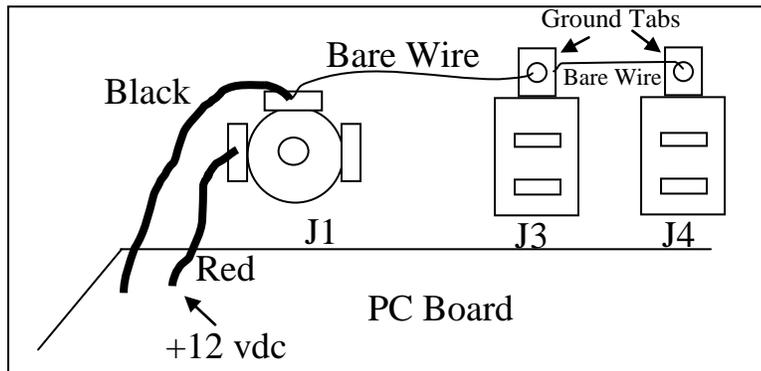

Figure 9. Rear panel wiring of power and audio connectors.
4.  Thread a bare wire through the ground tab of audio jack (J3) and solder one end to the ground tab of J4. Also solder this wire to the ground tab of J3. Insert the end of this bare wire into the top tab of the power connector but do not solder (see Figure 9).